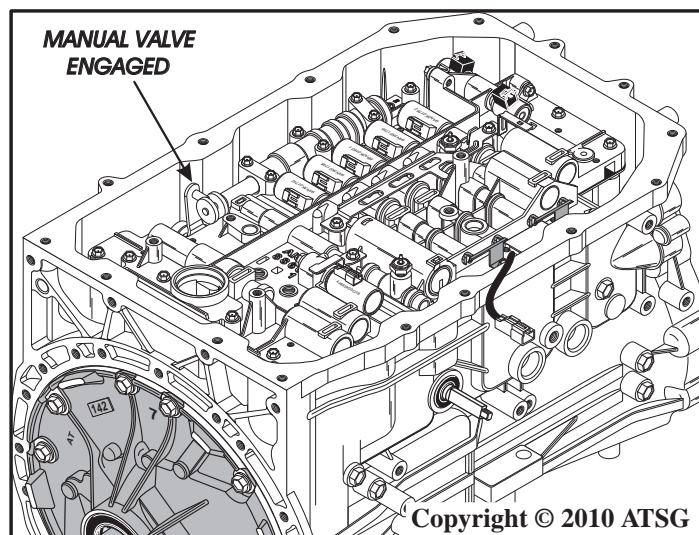

Figure 230
**Note:** Ensure manual valve is engaged with the inside detent lever (See Figure 230).